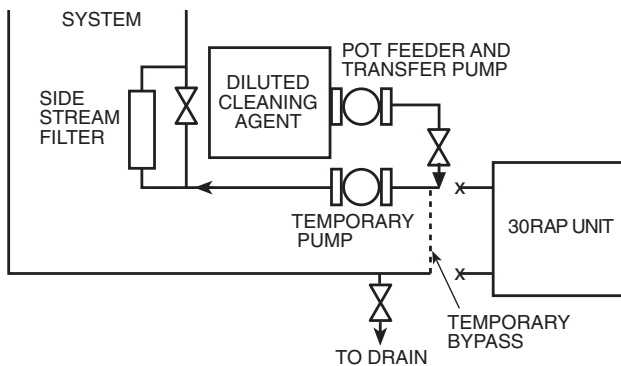

Fig. 26 — Cleaning Using a Side Stream Filter
- c. A side stream filter is recommended (see Fig. 26) during the cleaning process. Filter side flow rate should be enough to filter the entire water volume